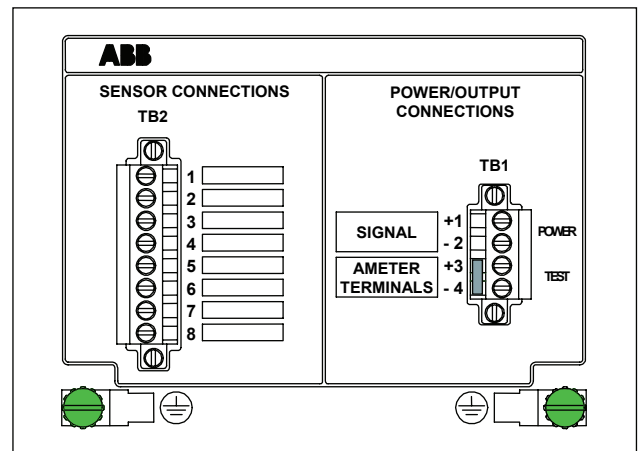

Figure 7 - Power Connections
The TB82 Transmitter is powered by DC voltage. See the appropriate power requirements in the Specification Section for the particular type of TB82 Transmitter in use (Analog, HART, PROFIBUS or FOUNDATION fieldbus (FF)). Power is connected to the POWER/OUTPUT area on TB1, terminals 1 and 2 (see Figure 7).